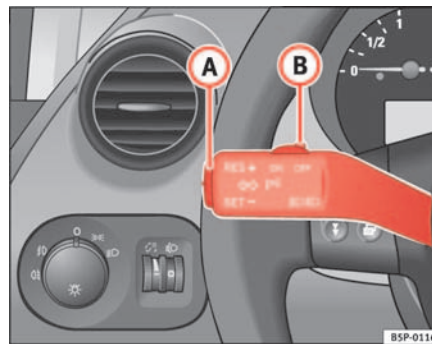

Fig. 142 Turn signal and main beam lever: Switch and rocker switch for CCS
- Push the switch ⇒ fig. 142 **B** to the left to **ON**.